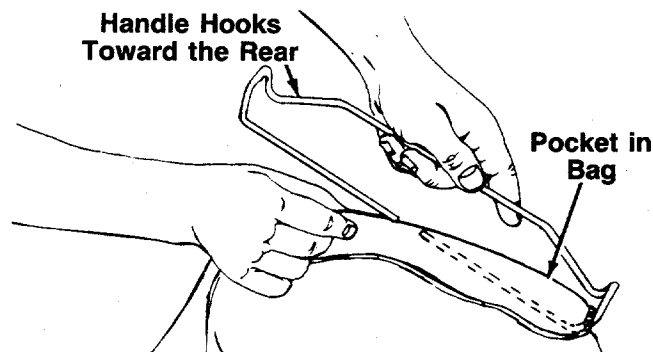

FIGURE 14.
3. Attach the rear handle to bag by inserting one side of handle into pocket on the rear of the bag. The handle should hook toward the rear of the bag as shown in figure 14. Thread all the material onto one side, then slide it over onto the other side. See figure 14. ←